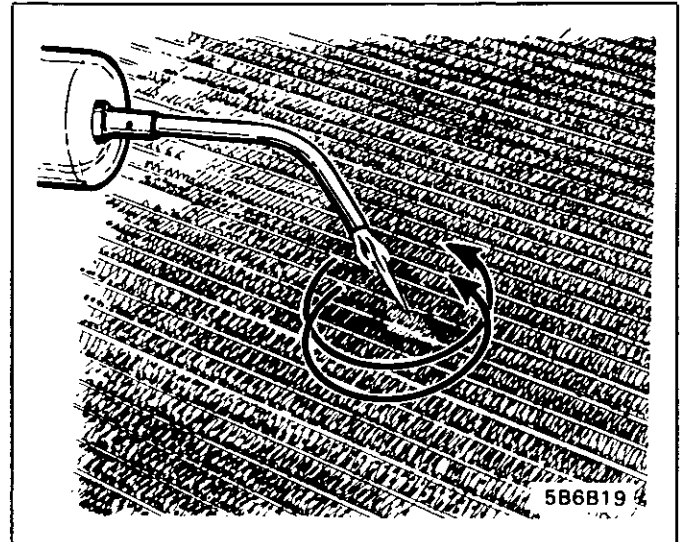

Fig. 32 Heating the Repair Area
- Heat the repair area with the heat gun or by moving the torch in a circular pattern (Fig. 32). Use a soft, small blue flame (like a gas stove flame).